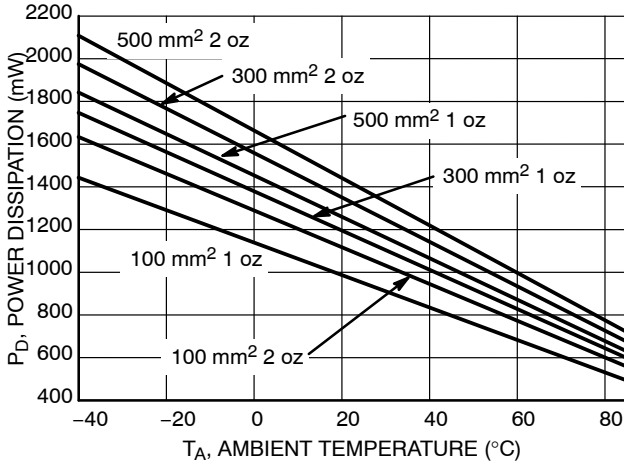
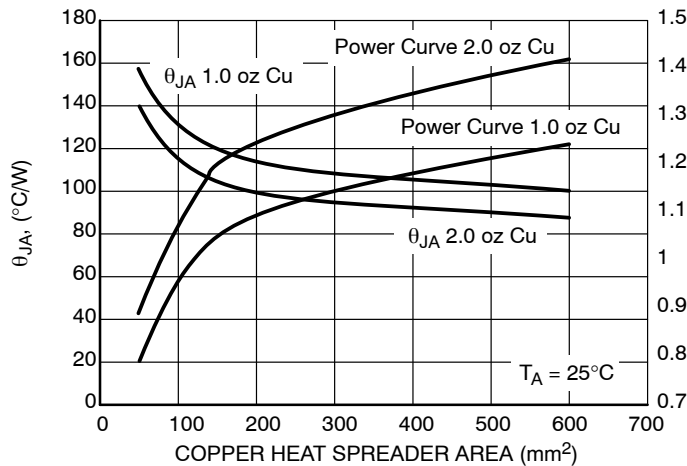

Figure 3. Power Dissipation vs. Ambient Temperature (SOT-223) @ $T_J = 150^{\circ}\text{C}$
Figure 4. SOT-223 θ_{JA} and P_D vs. Cu Area
Figure 3 shows power dissipation over changes in ambient temperature for the SOT-223 package. Figure 4 shows θ_{JA} ($^{\circ}\text{C}/\text{W}$) and P_D (W) for various Cu areas and thicknesses. These tables and graphs illustrate the effect of Cu area, thickness and ambient temperature (T_A) over the range of -40°C to 85°C which encompasses the area of interest for automotive LED operation.